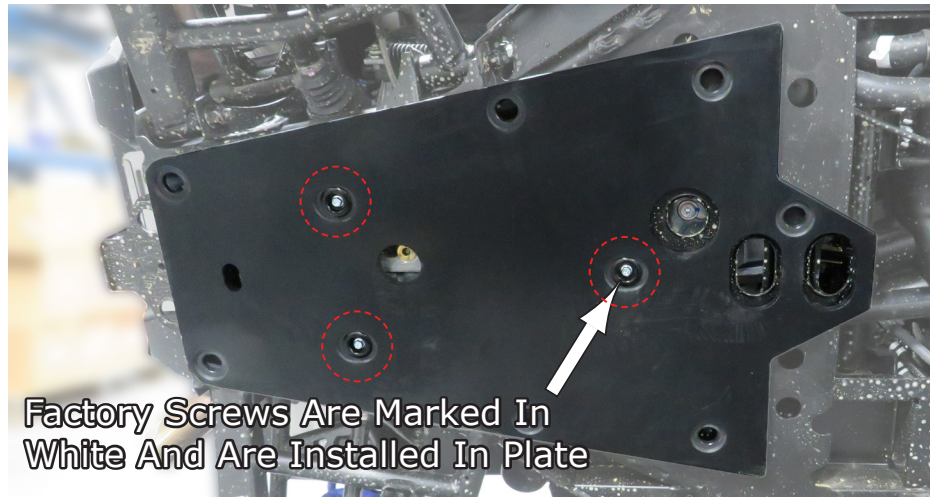

Fig.8
8. The first plate will be the rear smaller plate using only the factory screws and existing hole locations. **Fig.8** shows this plate installed with only the existing holes and factory screws in place. Remember to leave them a little loose until all plates and screws have been installed on the vehicle for a final fit adjustment of the plates. We have marked the screws with a White Paint Marker for better visibility of placement.